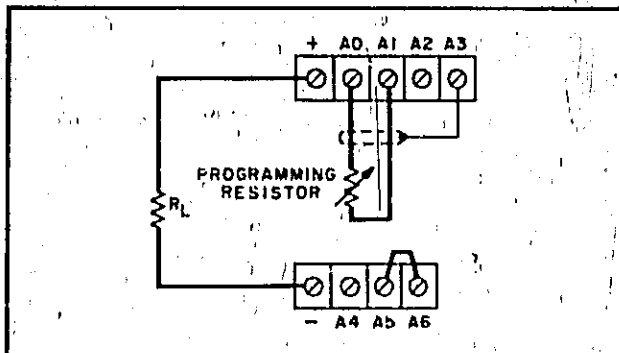

Figure 3-3. Remote Resistance Programming, Constant Current.
3-19 Resistance Programming (Figure 3-3). In this mode, the output current varies at a linear rate determined by the remote resistance programming coefficient. This coefficient is different for each output current range, as shown in Table 1-1 of this manual. The programming coefficient is determined by the constant current programming current which is adjusted to $1\text{mA} \pm 0.25\%$ at the factory. If greater programming accuracy is required, it can be achieved by adjusting resistor R32 as outlined in Paragraph 5-66.
3-36 It is possible to simultaneously remote resistance program and externally modulate the dc current output simply by combining the strapping patterns of Figures 3-3 and 3-8 as follows:
- Connect remote programming resistance between terminals A0 and A1 as shown in Figure 3-3.